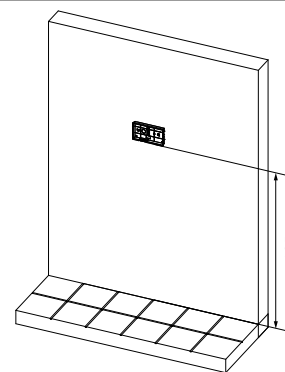
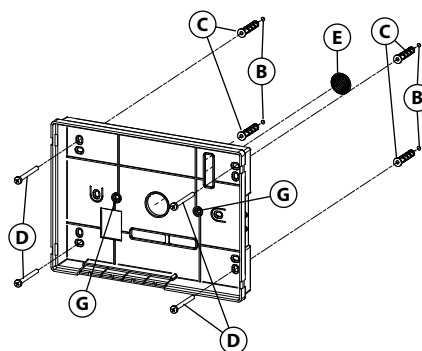

Fig. 3
Fig. 4
3. Put the base of the unit on the wall at approx 135cm from the finished floor (Fig. 3) to match the points for the fixing holes (B) (Fig. 4) remembering that the wires (E) (Fig. 4) must be fed through the large hole (F) (Fig. 4). If you use the flush mounting box 503, embed it into the wall vertically at approx. 140cm from the finished floor and the base.
4. Following Fig. 4, make the holes (B), insert the wall plugs (C) and fix the base with the screws (D) feeding the wires (E) through the hole (F). If you have used the box 503, fix the base to the wall through the holes (G) using the screws (D).